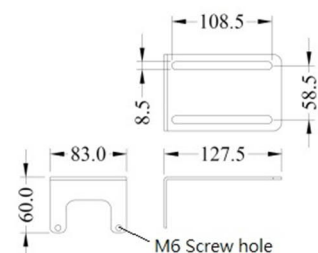

Figure 7
- ☞ Secure the wall mounting bracket to the structure by using four fasteners (not provided). (Figure 7)